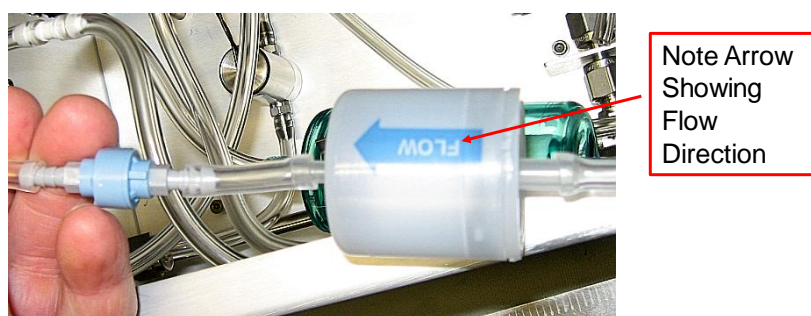

Figure 9-7
4. Insert a new HEPA filter making sure that the direction of flow matches the direction of flow on the filter you removed (see Figure 9-7).